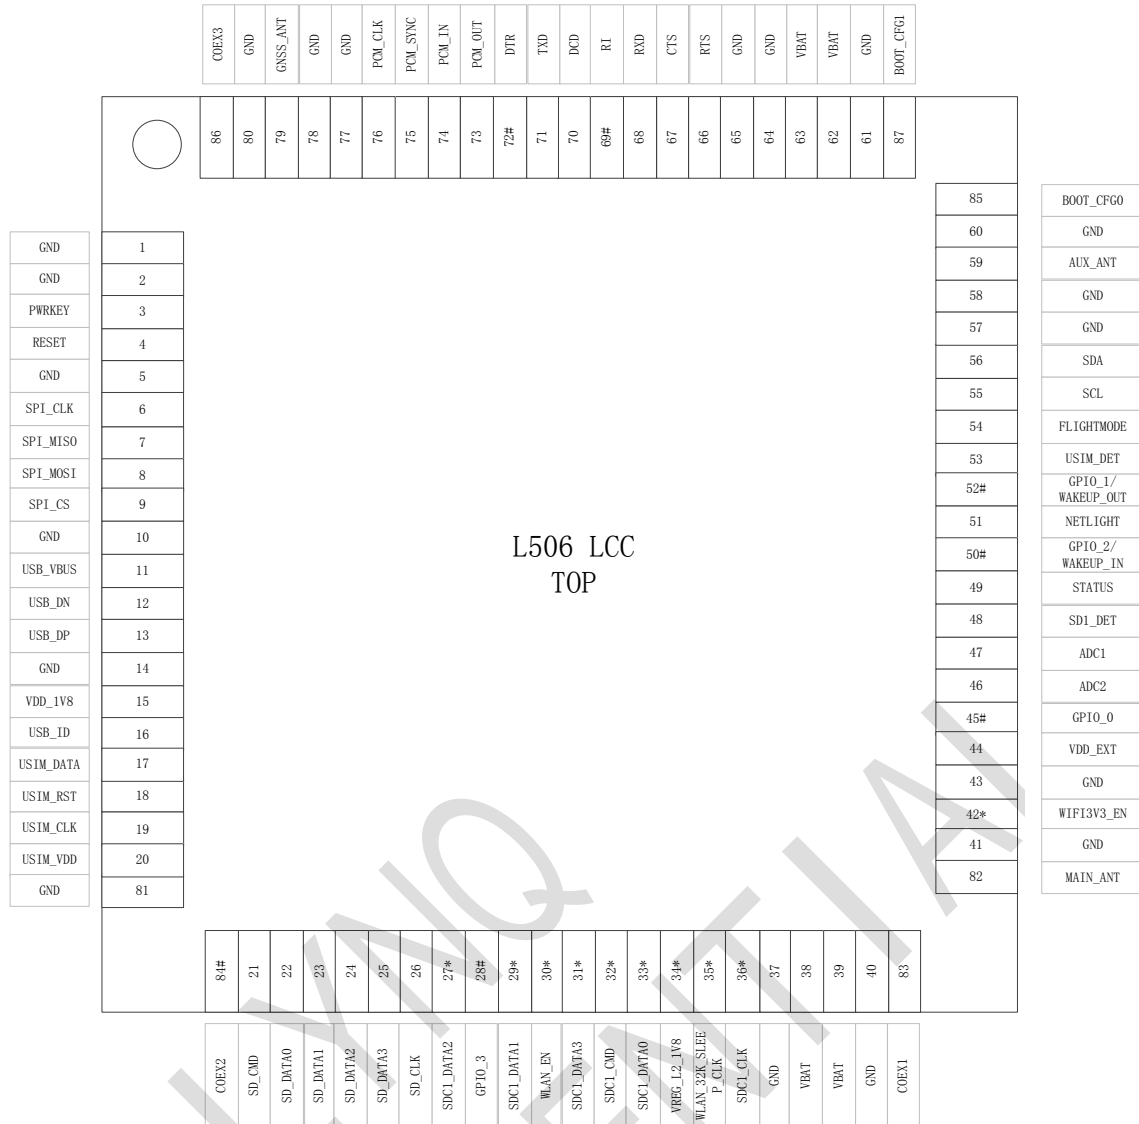

Figure 3-1 Pin Map View (Top View)
L506 have different version, and the correspond pin definition show as special mark (* mark or #mark) in the pin map. In the different hardware version the corresponding pin have differential using, detail description show as below chart. All hardware interfaces which connect L506 to customers' application platform are through 87 pins pads (Metal half hole). Figure 3-1 is L506 outline diagram.
Note: 1. * flag pin in Figure 3-1 stand for WIFI interface in the WIFI edition module. In without WIFI interface edition, it's reserved pin, suggest in your design let the pin open.
2. #flag pin in Figure 3-1 stand for multi-function pin. Detail description show as in corresponding function description.